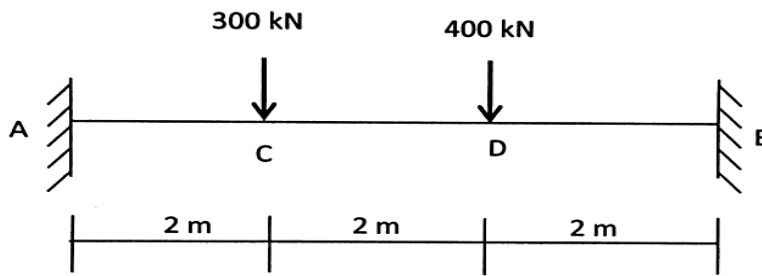

Fig.5
Q.5 Determine fixed end moment for the loaded beam as shown in fig.5 also draw BMD and SFD for beam. 15